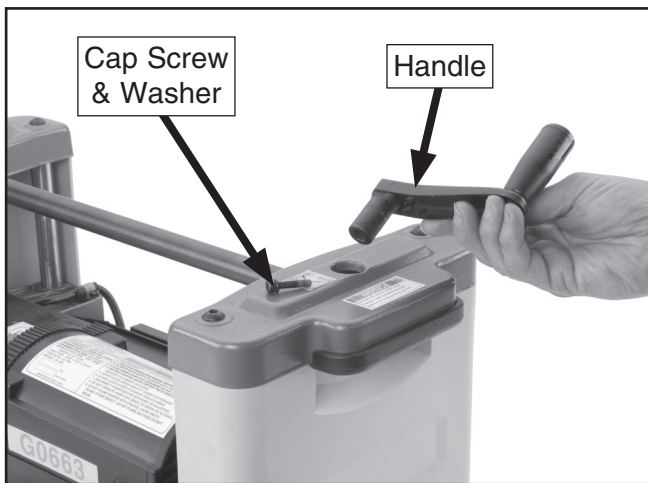

Figure 5. Attaching handle.
3. Thread the M5-.8 x 25mm cap screw with the lock washer through the handle and into the shaft to secure the handle in place, as shown in **Figure 5**. DO NOT over-tighten.